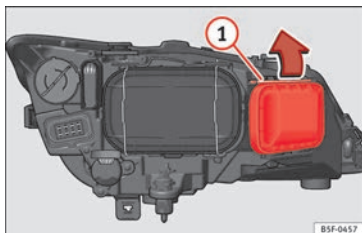

Fig. 107 Main beam headlight bulb.
- Move the loop » **Fig. 107** ① in the direction of the arrow and remove the cover.